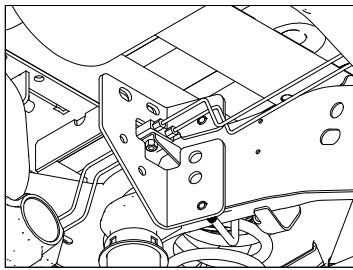
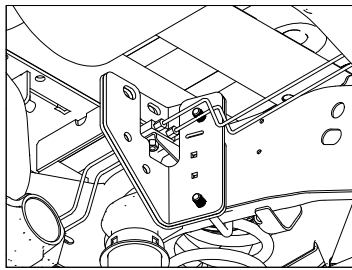
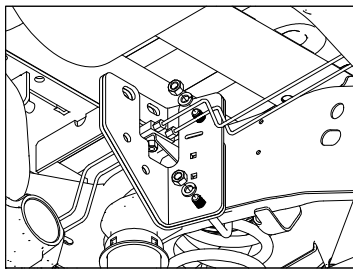

Figure D4
Figure D5
Figure D6
3. **Install the driver side plates.** The two side plates that are left will be combined to secure the hitch to the frame on the driver side. Using the slot provided, maneuver the outside side plate around the brake lines and line the holes up with the U-bolt, see Figure D4. The wiring harness may lay in this slot to prevent it from being pinched by the U-bolt, side plate, or cross member. Insert the U-bolt into the holes on the side plate just enough to hold the side plate in place. Position the inside side plate over the first, as shown in Figure D5. Insert the U-bolt into the holes of the inside side plate. Secure the side plates and U-bolt with lock washers and nuts, as shown in Figure D6. Fasten the two side plates together using 1/2" x 1-1/2" long bolts, lock washers and finish nuts. Attach these side plates to the front cross member and center using a 2-1/4" long bolt through the center, cross member and side plate along with a lock washer, flat washer, and a finish nut. Finish attaching the side plates by placing a 1/2" x 1-1/2" long bolt through the cross member and the side plates adding a flat washer, lock washer, and finish nut, see Figure D7. Hand tighten these connections.